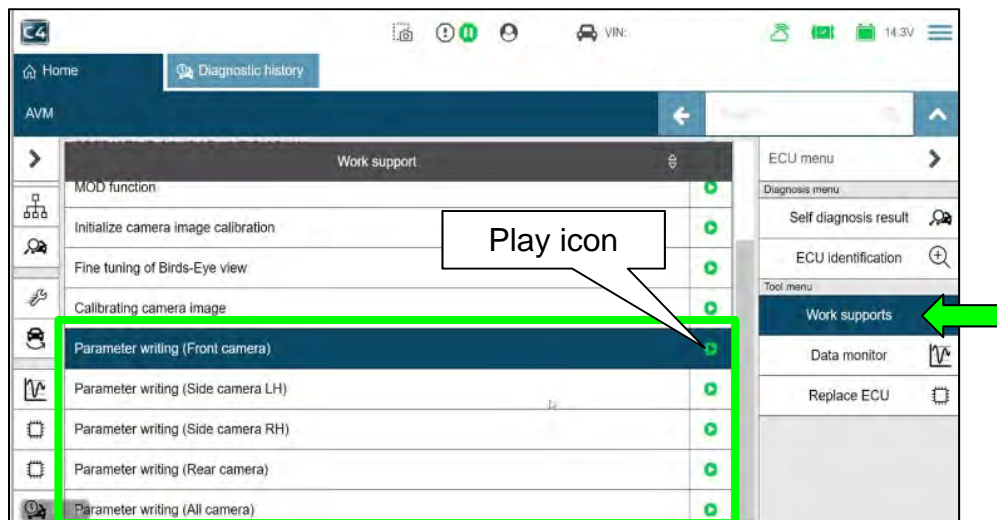

Figure 12
13. If one or more cameras were replaced, select the parameter writing for the camera that was replaced, and then select the green Play icon next to the selected camera (Figure 12).